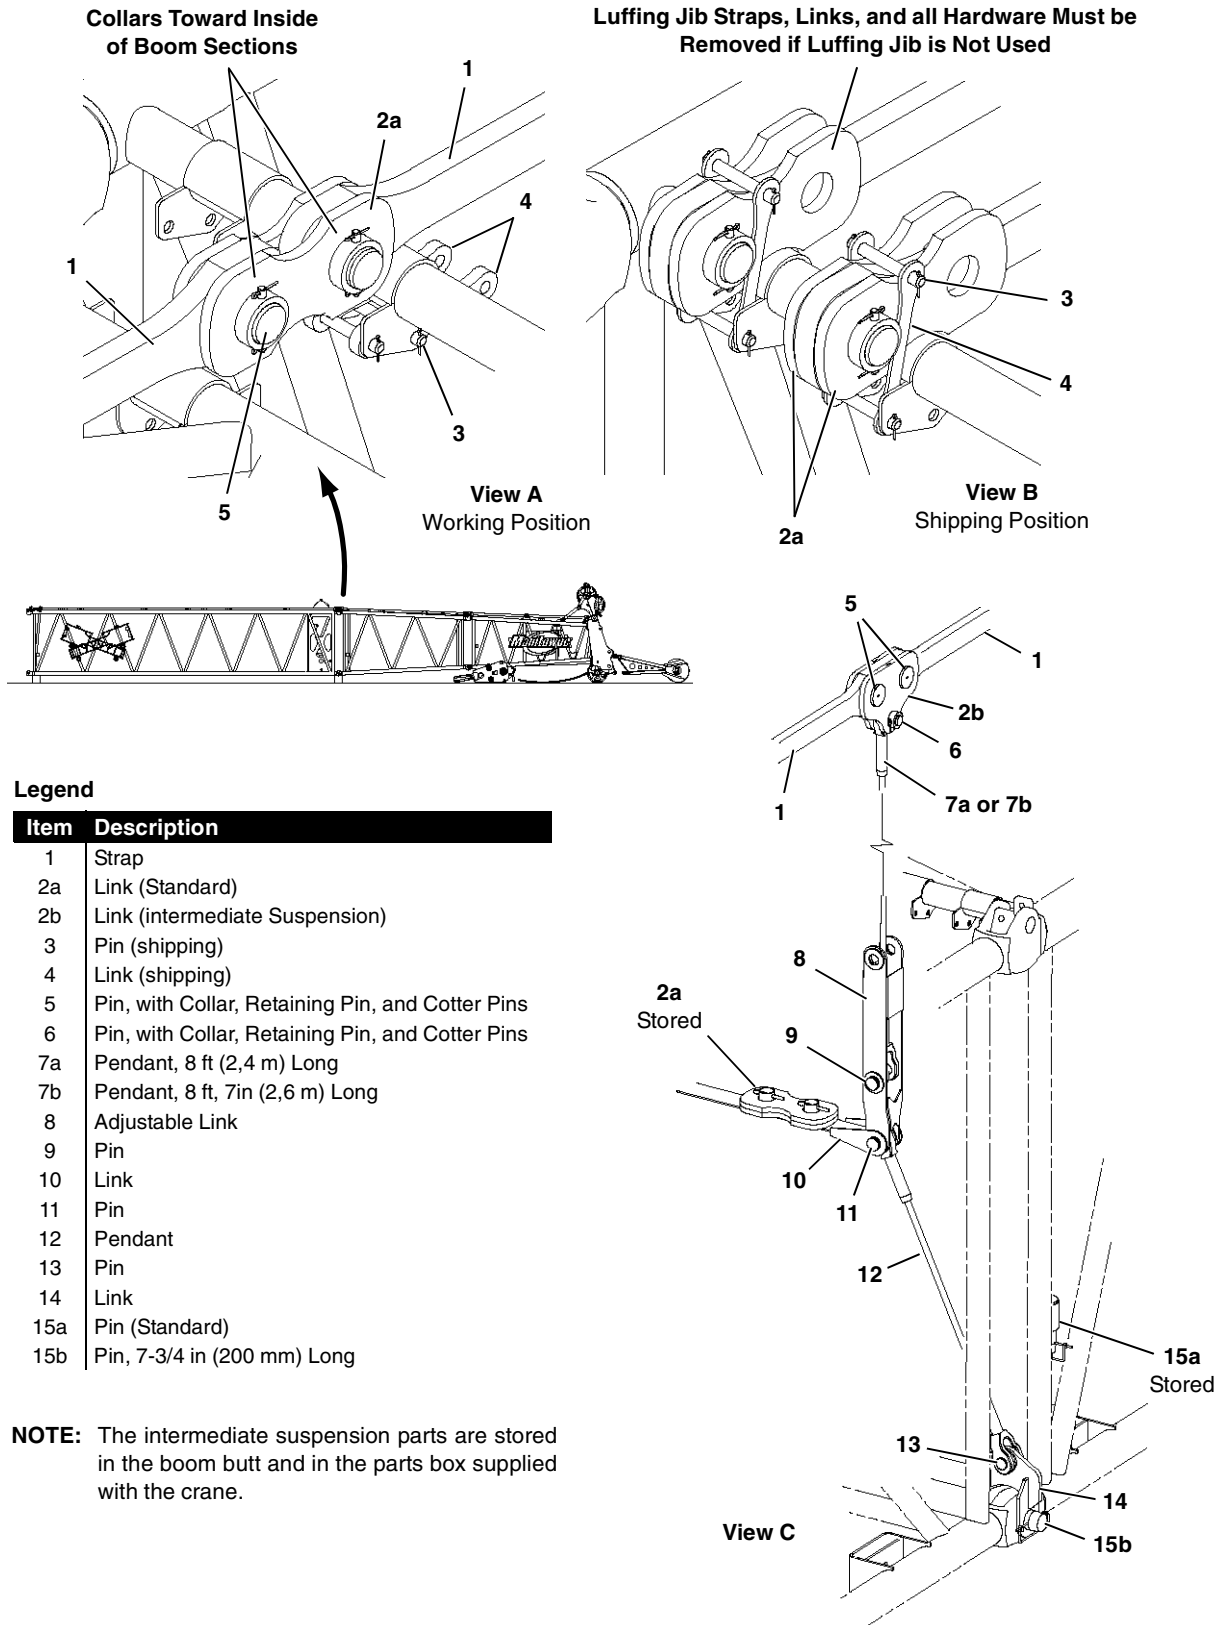

FIGURE 4-28
- b. Support wire rope guide with hoist and remove pin (3) from shipping position.
- c. Raise wire rope guide to operating position and install pin (3).
4. Lift next insert into position and engage fixed horizontal pins (4, View D) in insert with hooked connectors (5) in adjacent insert.
**NOTE:** If intermediate suspension is required, standard bottom connecting pins (6) are replaced with longer connecting pins and links (see Figure 4-28 and Boom Assembly Drawing).
7. Repeat steps 4 – 6 for each remaining insert (12) and for boom top (14).
**NOTE:** Transition insert (13) must be installed next to boom top (14).
- b. Support wire rope guide with hoist and remove pin (9) from shipping position.
- d. Store pin (9).
- e. Unpin struts (10) from storage lugs (11) and pin to wire rope guide.
See Figure 4-28 for following procedure.
See Figures 4-28 and 4-29 for following procedure.